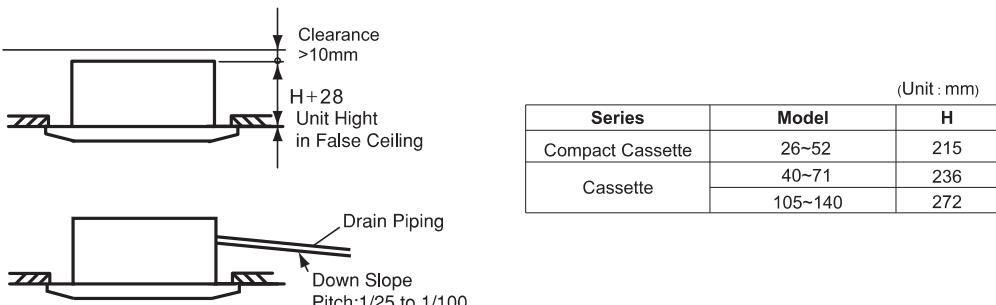

Fig. 3.2 Installation Location of Indoor Unit
- Select the installation location as shown in Fig 3.2.
- (A) Minimum Clearance
- (B) Down Slope Pitch of Drain Piping: 1/25 ~ 1/100